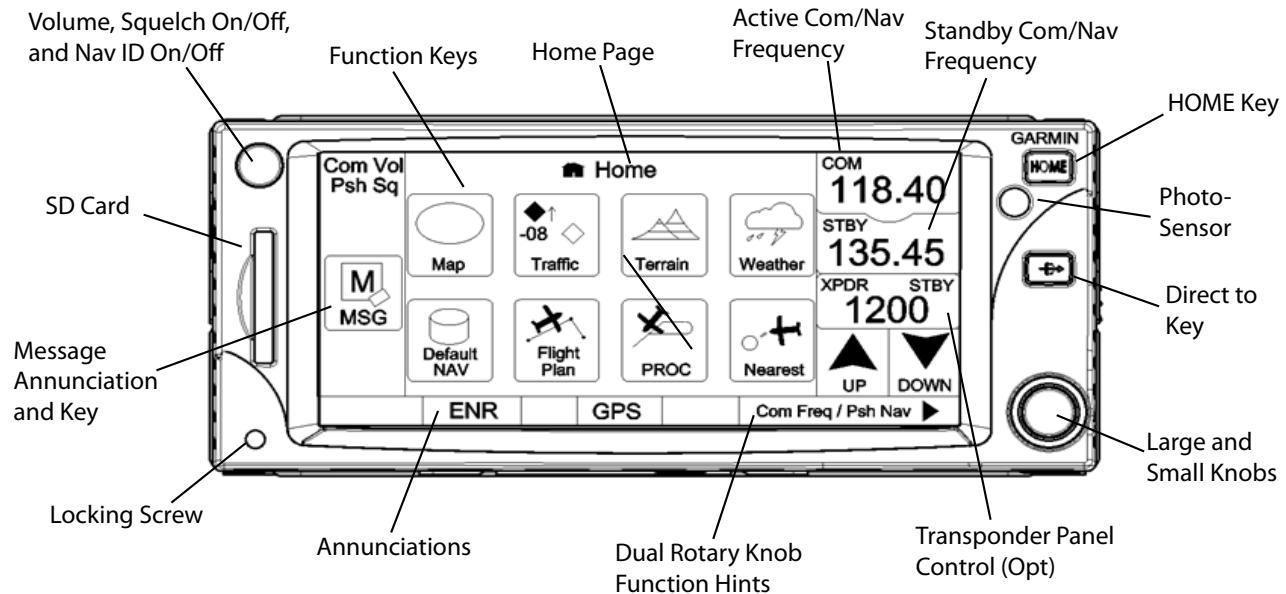

Figure 14- GTN 650 GPS COMM
The GTN 650 is a VHF communications transceiver and a GPS receiver. (Refer to Chapter 34-50 for GPS functions). It also includes a TSO-d airborne VOR/Localizer and Glideslope receivers. It uses a Secure Digital (SD) card to load and store various types of data. For basic flight operations, the SD card is required for Terrain, Obstacle, and Safe Taxi database storage as well as Jeppesen aviation database updates. The equipment can receive Comm signals from 118.00 MHz to 136.976 MHz in 25 KHz increments. This gives 760 channel operations. The display is a 600 by 266 pixel, 4.9 inch diagonal color LCD with touchscreen controls. See Figure 14